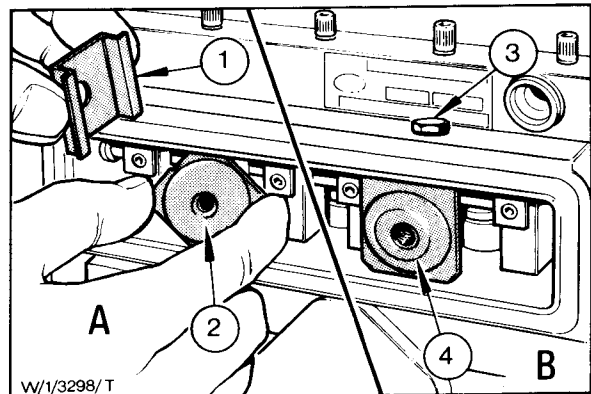

Fig. 27 - Side Cover Retainers
11. Remove the side cover retaining plates. Two different types of plate retainer are fitted; one is a spring clip fitted over the plate, the other is a grub screw inserted from above. With the retainers removed rotate the plates through 90° and lift them out (Fig. 27).